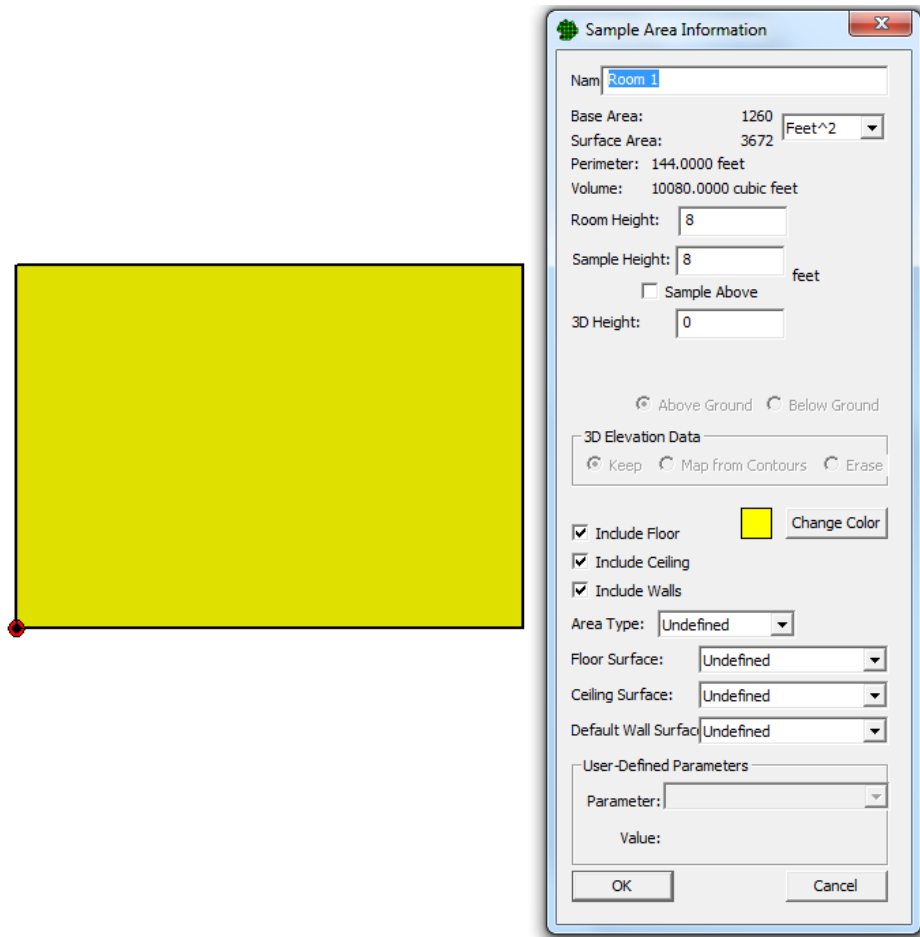
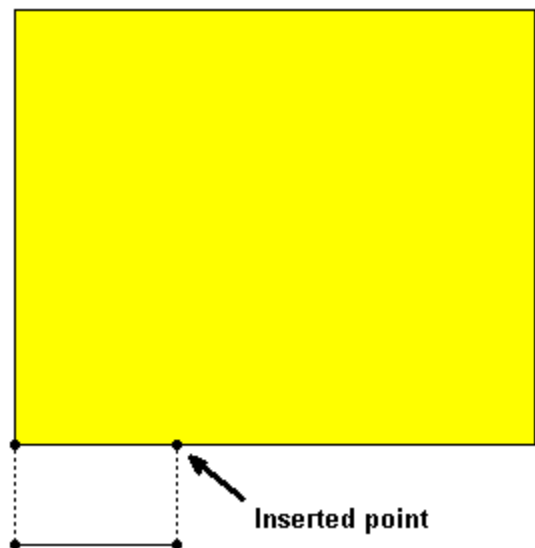

Figure 2.36 Sample Area Information Dialog Box for a Room
Figure 2.37 Room with Inserted Point
4. Choose the Main Menu; select **Sampling Goals > Compare Average to Fixed Threshold > Data not required to be normally distributed > Ordinary sampling of symmetric distribution**. Click the Apply button to place samples in the Sample Area. You should now have a Sample Area with 24 sampling locations similar to that shown in **Figure 2.36**.
7. Finally, to remove the sampling locations listed in *Remove.txt* from the Sample Area, choose Main Menu option **Map > Sample Points > Remove**. Select the file *Remove.txt* and click the **Open** button. You will see in **Figure 2.37** there now are only 16 sample points instead of the original 24 shown in **Figure 2.36**.